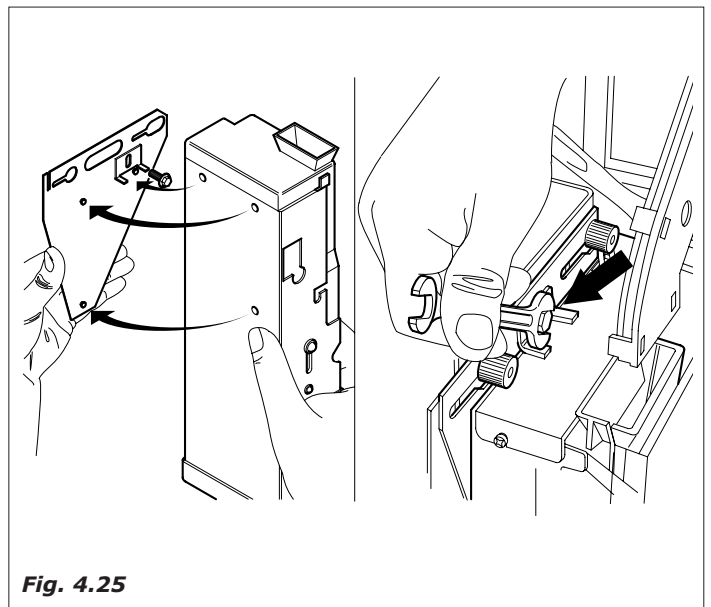

Fig. 4.25
- hook the coin mechanism on to the support brackets (Fig. 4.25)